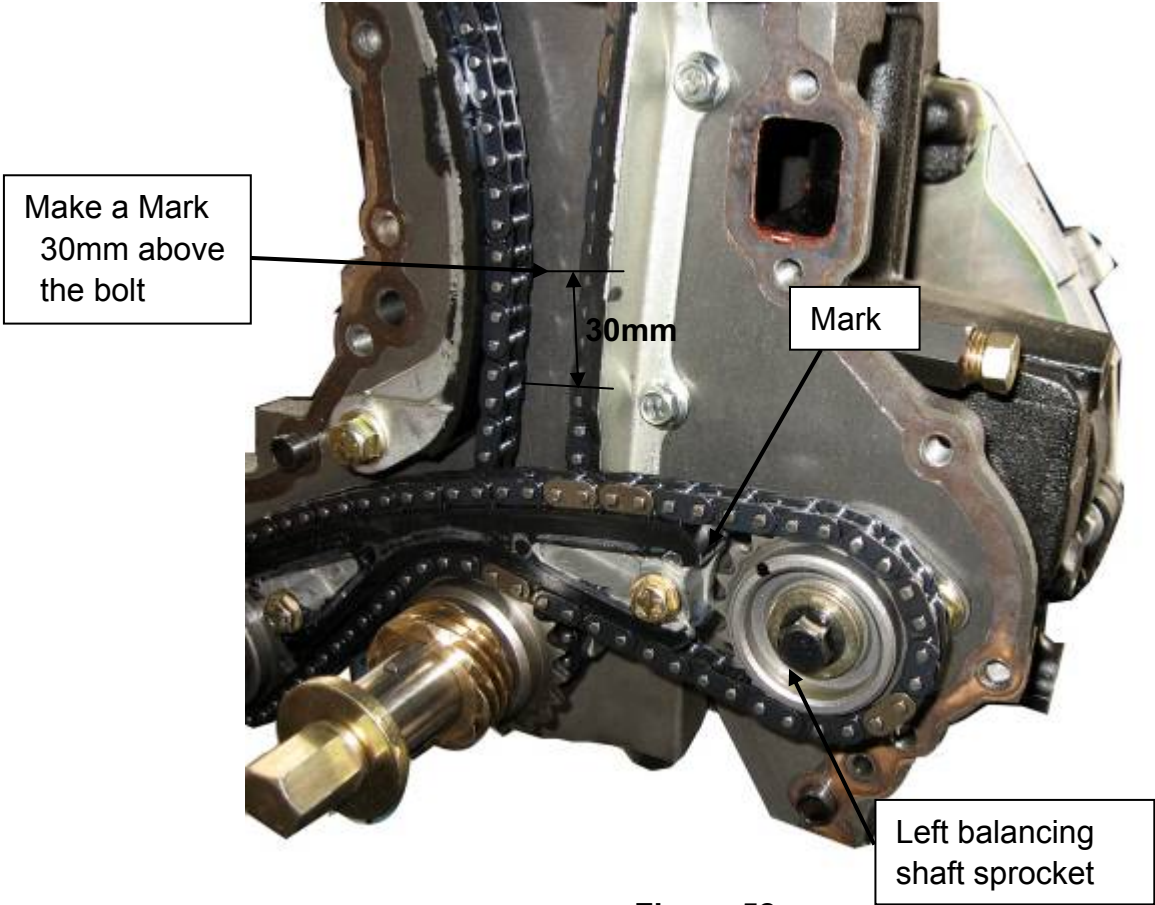

Figure 52
3. Make a mark about 30mm above the bolt as the Figure 52, and turn the right balancing shaft sprocket; make sure the mark on the balancing shaft sprocket aligned to the mark made at the beginning of this step.